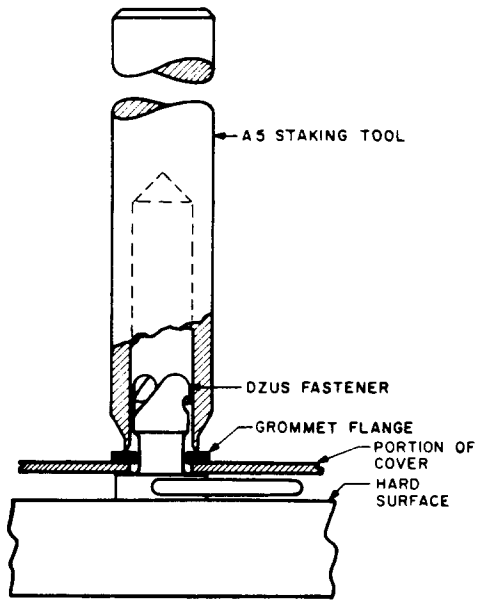

Fig. 4 - Method for Cutting Off Grommet Flange
5.01 Covers Without Dimpled Holes: To replace a Dzus fastener stud, remove the cover as covered in 4.03. Where the stud is loose on the cover and the associated grommet that holds the stud in place is deformed or broken, proceed as follows. With the head of the fastener stud resting on a hard surface, the stud may be removed by setting the cutting edge of the staking tool over the stud and resting on the grommet as shown in Fig. 4. Tap the staking tool with the ball-peen hammer until the flange of the grommet is sheared off. Remove the stak-